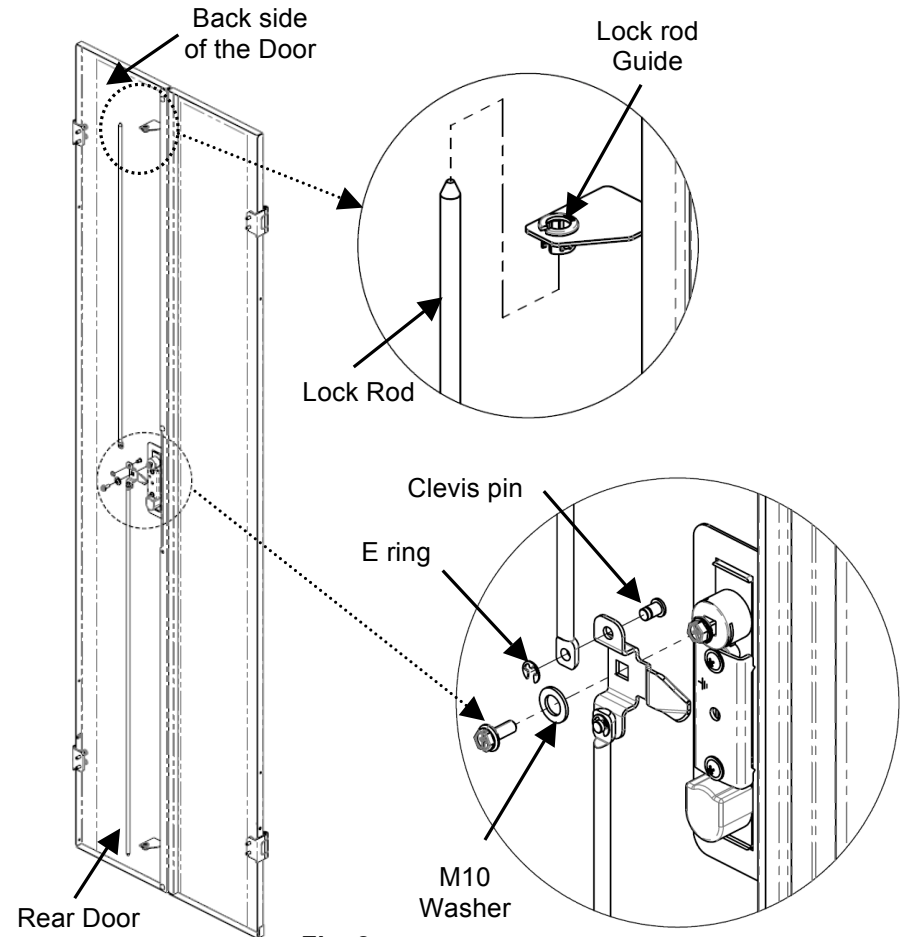

Fig. 2
4. Secure the swing handle to the inner panel latch plate with the swing handle tie-down bracket and 2 screws in the top and bottom holes (Fig.2).
5. Place the cam onto the cam post as shown and check swing handle operation direction (Fig. 2).
6. Insert the lock rods through the guides, with the short rod at the top and the long rod at the bottom (Fig. 2).
7. Insert the cam assembly pins through the short rod (on top) and the long rod (on bottom), then through the other half of the cam assembly (Fig. 2).